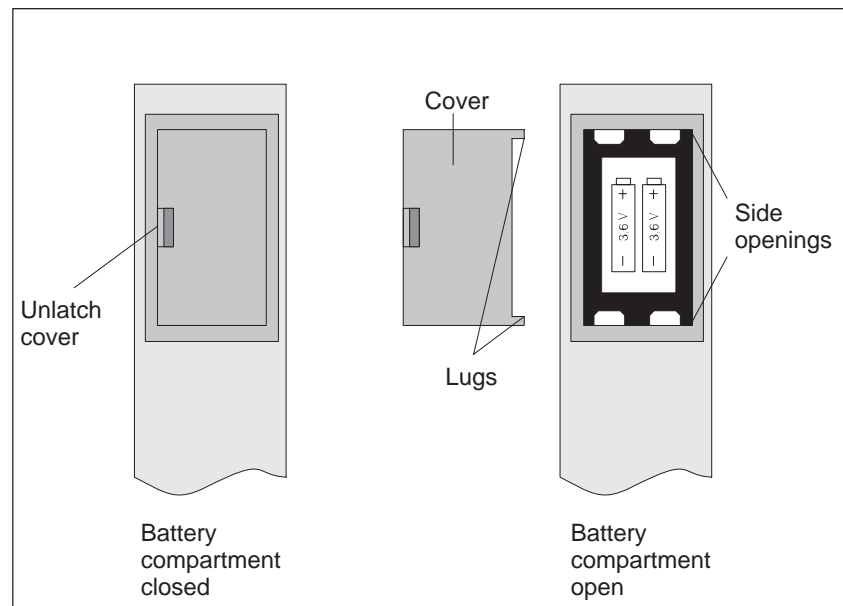

Figure 3-7 Battery Compartment of the Power Supply Unit
2. Open the cover of the battery compartment by unfastening the latch (see Figure 3-7).
Insert the lugs on the cover into the openings in the side of the battery compartment and swing the cover shut until it latches in place (see Figure 3-7).